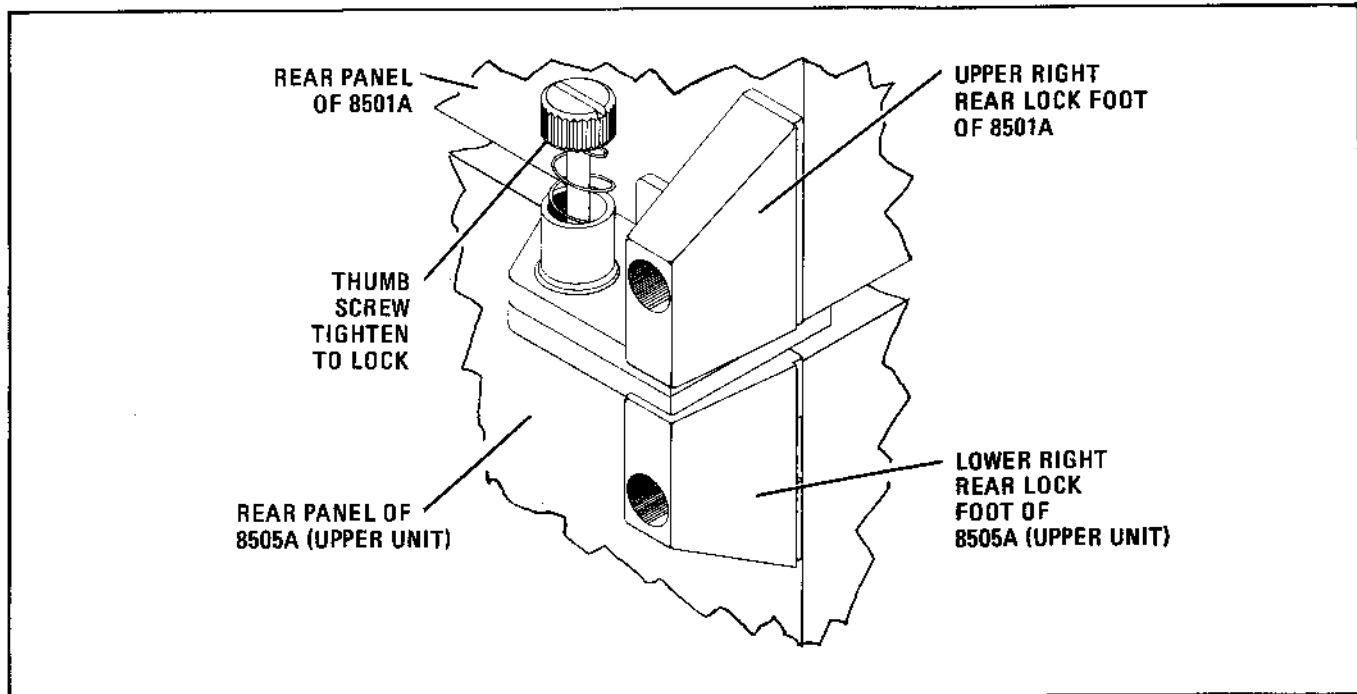

Figure 2-3. Lock Feet, Right Side
contain thumb screws (Part of 5061-0099). There is a left one and a right one. See Figure 2-3 for proper placement.
- Remove the two top rear feet from the 8505A (upper unit) and replace with lower left rear lock foot and lower right rear lock foot. See Figure 2-3 for proper placement.